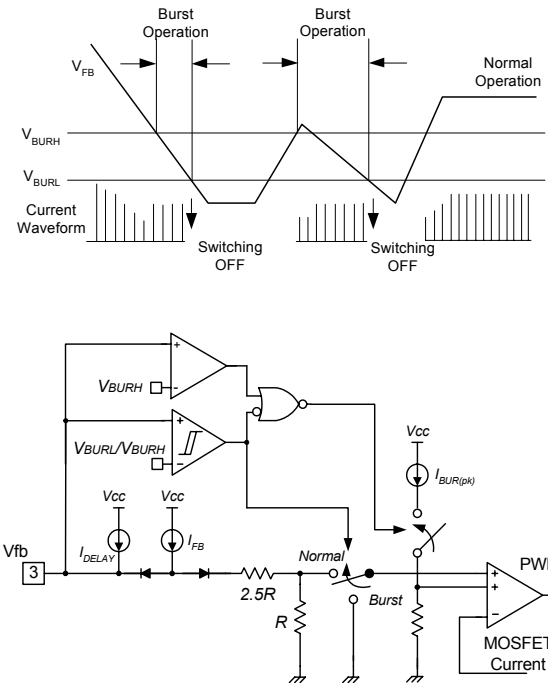

Figure 9. Burst Operation Function
**6. Burst Operation :** In order to minimize power dissipation in standby mode, the FPS enters burst mode operation. As the load decreases, the feedback voltage decreases. As shown in Figure 9, the device automatically enters burst mode when the feedback voltage drops below  $V_{BURH}$  (500mV). Switching still continues but the current limit is set to a fixed limit internally to minimize flux density in the transformer. The fixed current limit is larger than that defined by  $V_{FB} = V_{BURH}$  and therefore,  $V_{FB}$  is driven down further. Switching continues until the feedback voltage drops below  $V_{BURL}$  (350mV). At this point switching stops and the output voltages start to drop at a rate dependent on the standby current load. This causes the feedback voltage to rise. Once it passes  $V_{BURH}$  (500mV), switching resumes. The feedback voltage then falls and the process repeats. Burst mode operation alternately enables and disables switching of the power Sense FET thereby reducing switching loss in Standby mode.